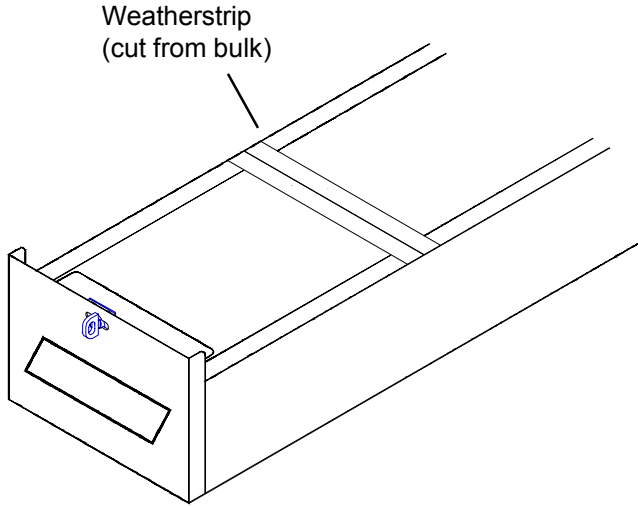

Figure 8. Assembly Weatherstripped for Crossmember
7. Mark the Conduit Carrier where it lays on the van rack crossmembers. Remove the Conduit Carrier from the van rack. Adhere Weatherstripping to the underside of the unit where it laid on the crossmembers (see Figure 8.).